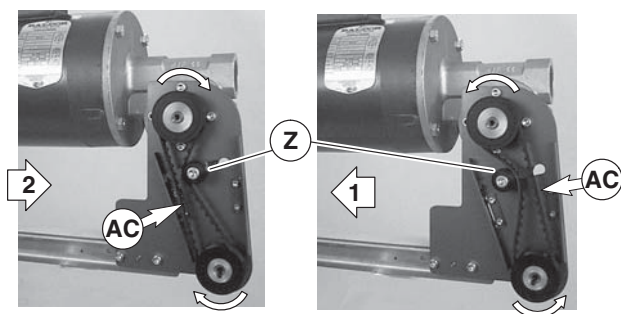

Figure 17
10. Depending on direction of conveyor belt travel (Figure 17, item 1 or 2), position belt tensioner (Z) as shown. Tension belt to obtain 0.125" (3 mm) deflection for 1.0 lb (456 grams) of force at belt mid-point (AC). Tighten tensioner screw to 103 in-lb (12 Nm).
3. Depending on direction of conveyor belt travel (Figure 17, item 1 or 2), position belt tensioner (Z) as shown. Tension belt to obtain 0.125" (3 mm) deflection for 1.0 lb (456 grams) of force at belt mid-point (AC). Tighten tensioner screw to 103 in-lb (12 Nm).
5. Depending on direction of conveyor belt travel (1 or 2 of Figure 17), position belt tensioner (Z) as shown. Tension belt to obtain 0.125" (3 mm) deflection for 1.0 lb (456 grams) of force at belt mid-point (AC). Tighten tensioner screw to 103 in-lb (12 Nm).